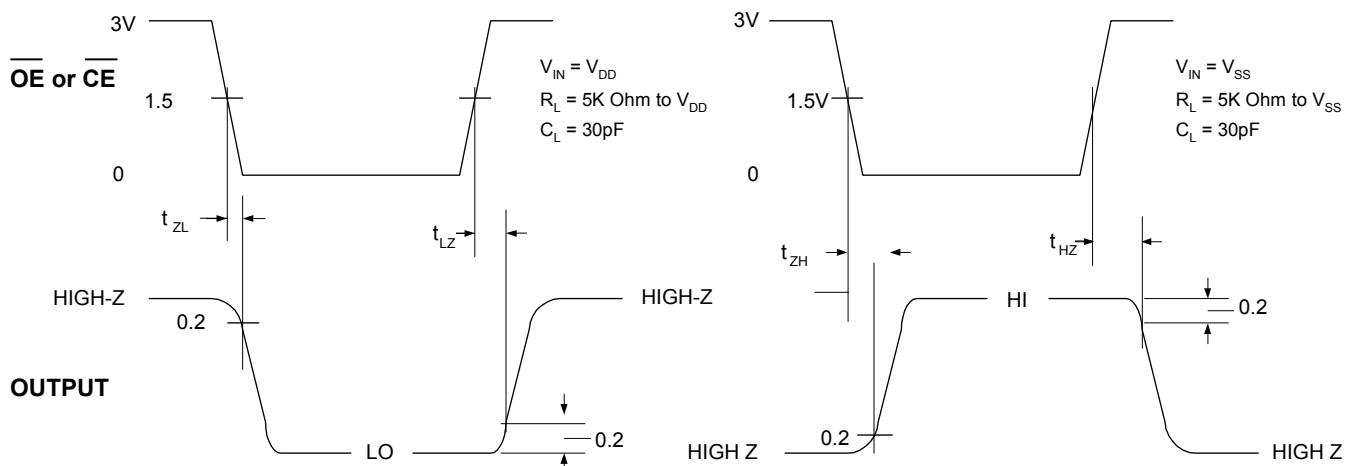

Figure 8 Chip Select or Output Enable to Output Delay
3. Timing measured from $V_{IN}=1.5V$ to $\Delta V_{OUT}=200mV$. See Figure 8